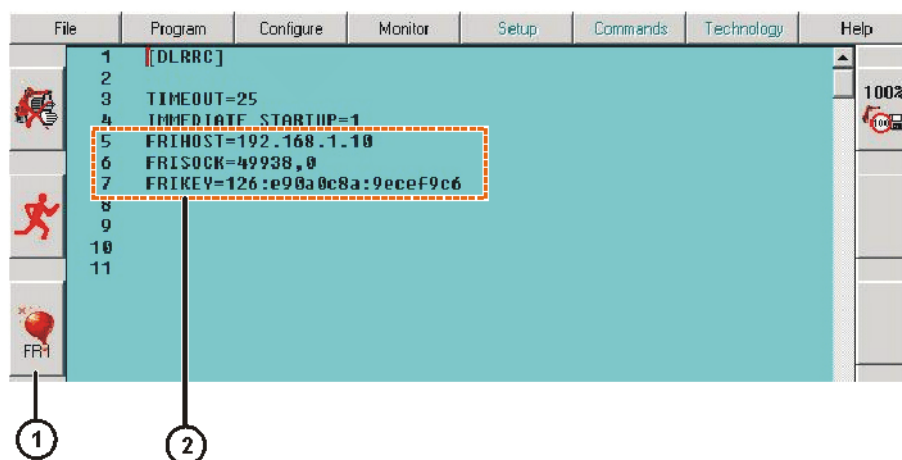

Fig. 5-3: Activating FRI
2. After the line 'IMMEDIATE_STARTUP=1', insert the following lines (>>> Fig. 5-3):